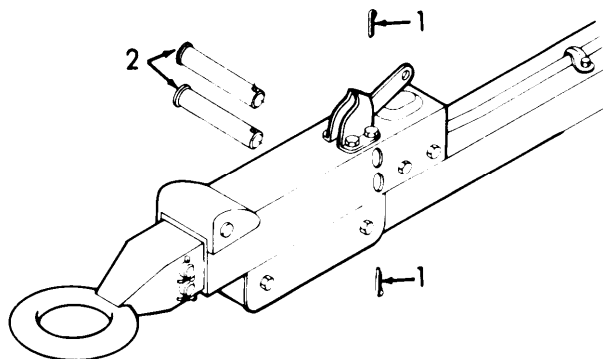

Figure 3-53. Master Pin, Installation.
- (4) Install master pin (2, Figure 3-53) and two new cotter pins (8152) (1).